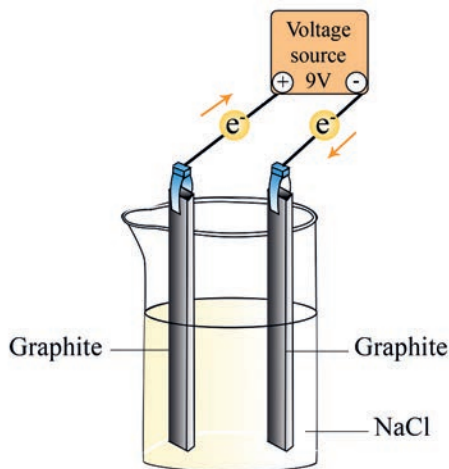

Figure 2.5: Electrolysis of sodium chloride solution
4. Arrange the setup as shown in the **Figure 2.5**
2. Identify the cathode and anode in the **Figure 2.5**